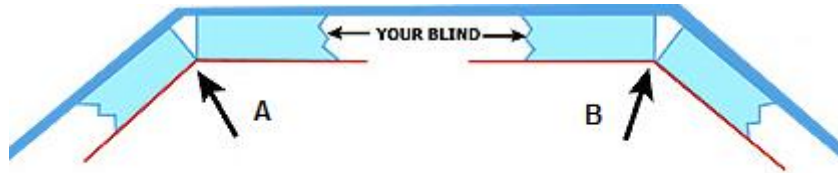

Figure 3
4. Place the strips in the left angle first, and bring them together until the front corners of the cardboard meet. Mark a point where the corners touch and call it "point A" as shown in fig. 3 above.